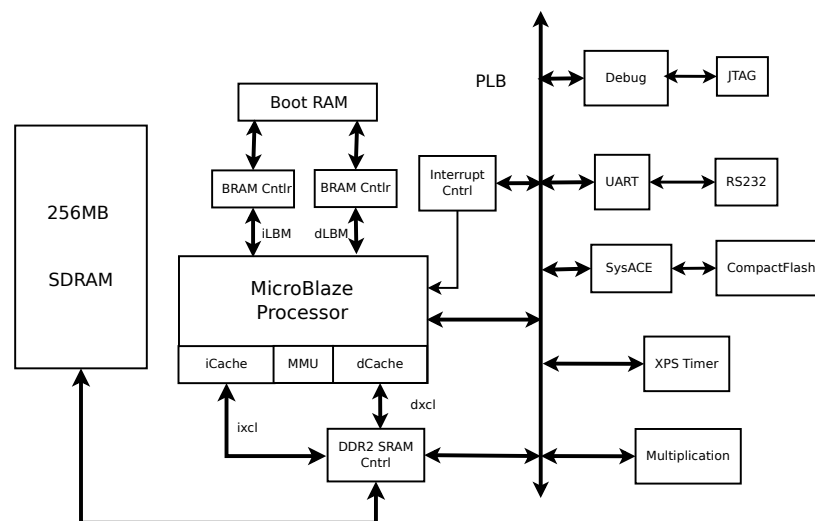

Figure 1: MicroBlaze System Diagram
The microprocessor system you will build in this lab is depicted in Figure 1. As in last lab, this system has a MicroBlaze processor, a debug peripheral, a UART, and a custom multiplication peripheral. Unlike last lab, however, this system has an XPS Timer, a System Advanced Configuration Environment (SysACE) peripheral, an interrupt controller, and a DDR2 SDRAM (Double Data Rate v2 Synchronous Dynamic Random Access Memory) controller. Additionally, the MicroBlaze itself has a Memory Management Unit (MMU) and instruction and data cache. These additional peripherals along with the MMU within the MicroBlaze are required to run Linux. The timer is necessary for certain OS system calls. The SysACE controller provides Compact Flash read/write access. The DDR2 SDRAM controller provides the system with 256MB of
1. To begin, we must create a base MicroBlaze system which includes all the peripherals shown in Figure 1 except the multiplication peripheral.
3. We are almost finished building the system depicted in Figure 1. To complete it, we must import the multiplication peripheral that we created last lab. We will be using this same system for the next lab. Thus, we add it now. Since the system we will synthesize has increased greatly in size, the goal is to reduce the number of system builds.